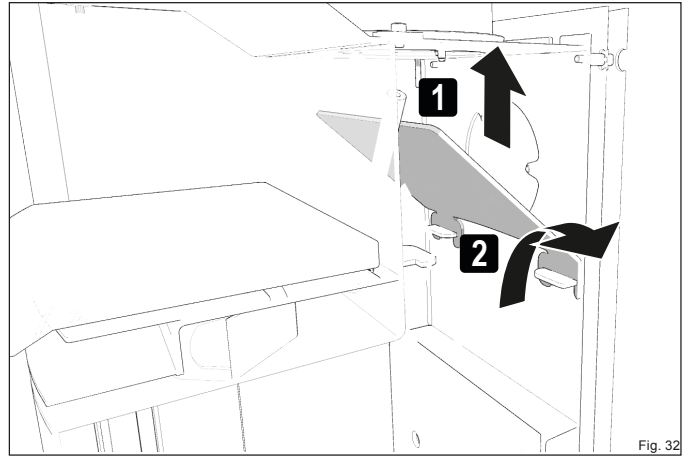

Fig. 32
- ▶ Release the above baffle plate out of the brackets (Fig. 32)